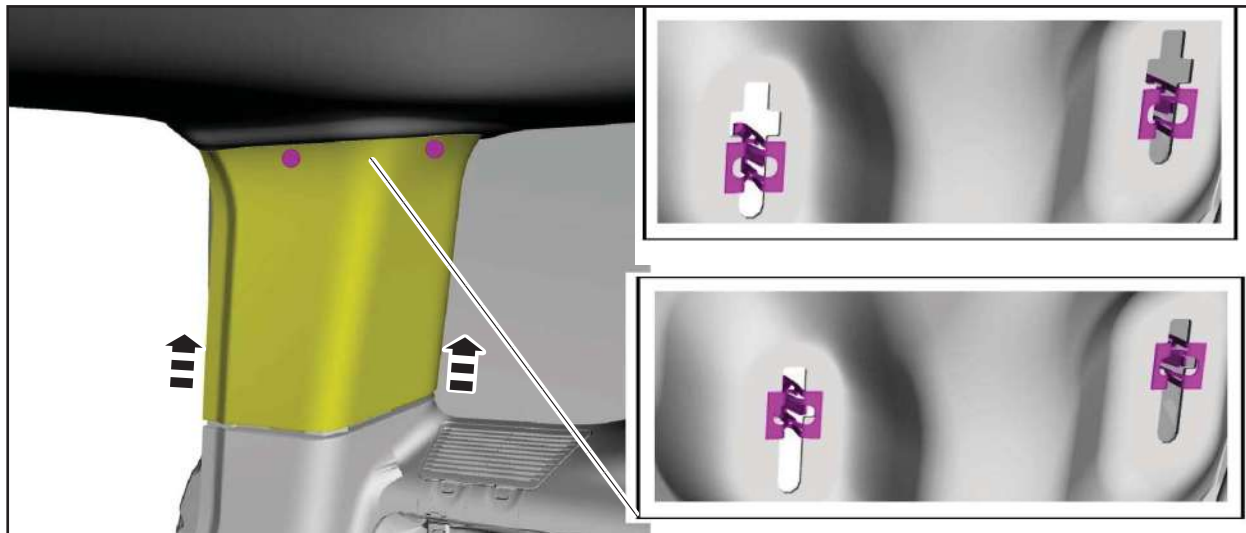

FIGURE 13
13. Slide the LH D-pillar trim panel up, aligning the clips to the slots in the sheet metal. See Figure 13.